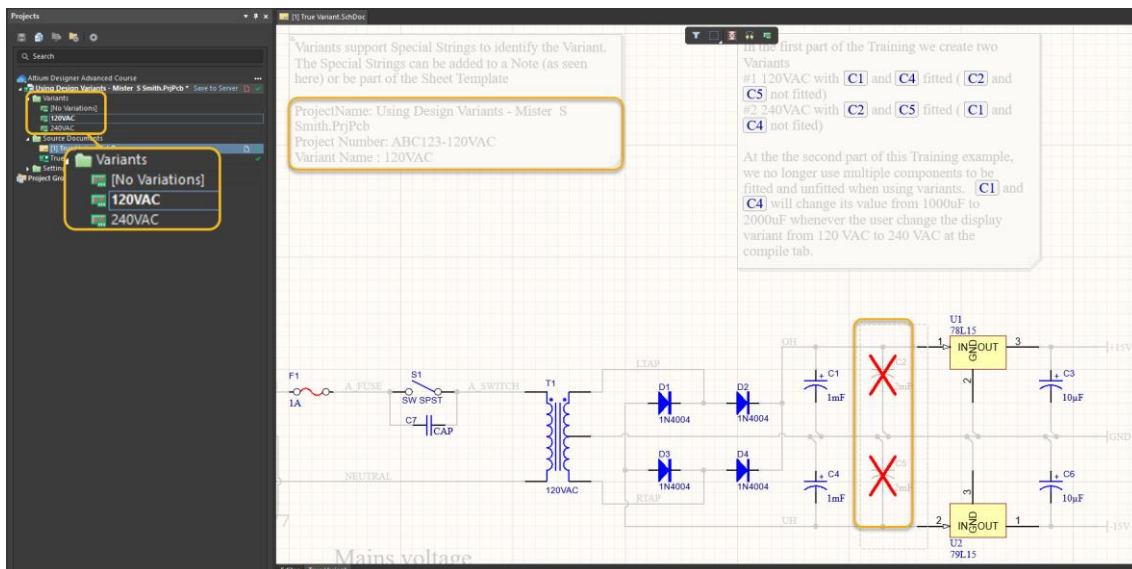

Figure 7. Selecting the Variant Menu
25. In the *Projects* panel, you will find a *Variants* folder, as shown in Figure 7.